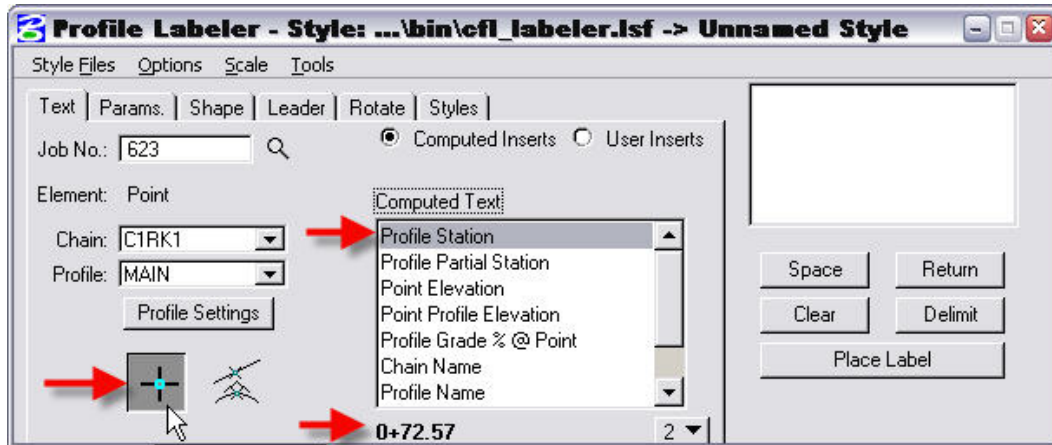

Figure 1-23: Find/label a station in profile
- 1.3.4 Open the Profile Labeling Tool. *Select the profile labeling tool as shown below. In the profile labeler, select the Profile Settings tab. A profile cell control dialog will appear. Select Identify Cell and click and accept the profile cell in the drawing. Use the Profile Labeling Tool to get the station limits for any required upper tier as shown in figure 1-23. Write down these limits as they will be important in Phase 2.*